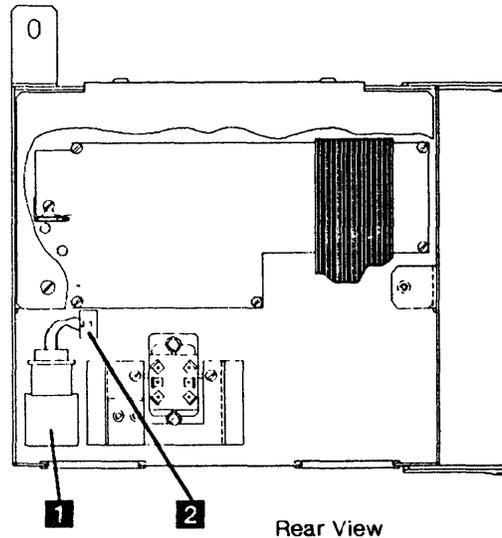

Figure 4-63. Battery Location
4. Locate the battery **1** Refer to Figure 4-63.